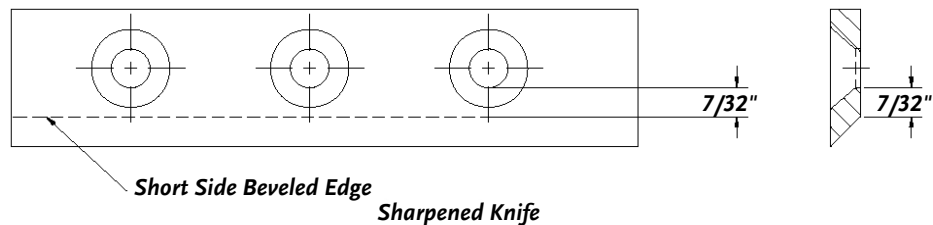

Figure 44
- Once this measurement is below 7/32" (see **Figure 44 "Sharpened Knife"**), or if you are unable to remove dents or gouges with these guidelines, replace the Knife.